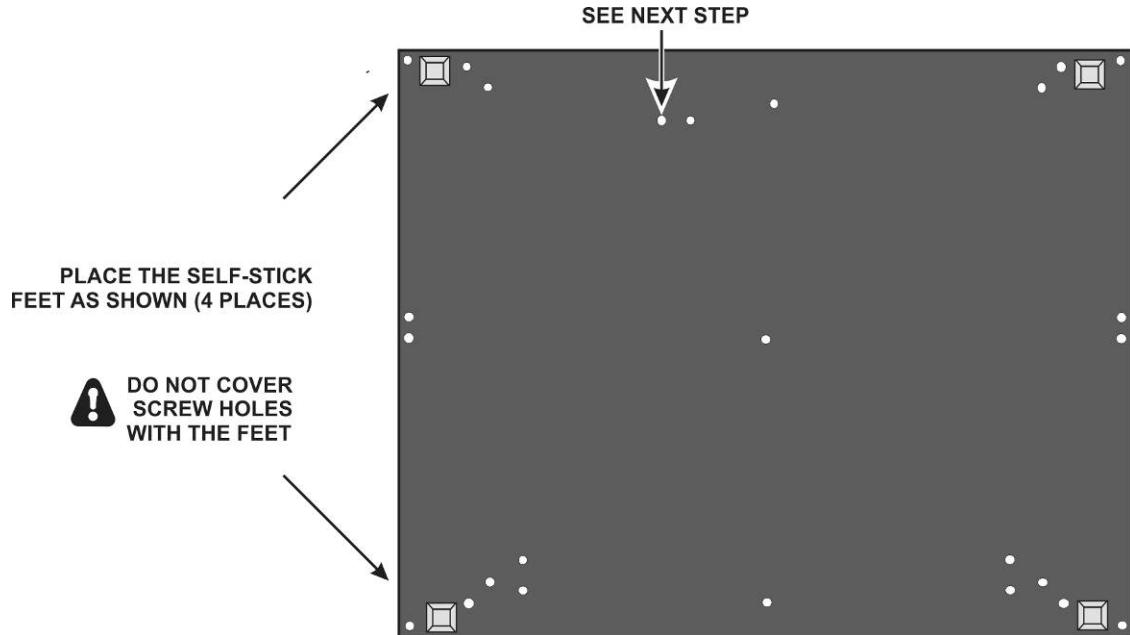
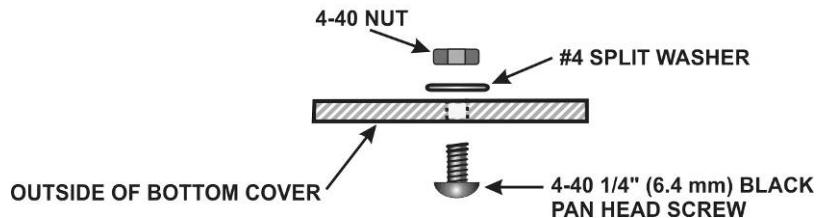

Figure 16. Placing Feet on the Bottom Cover.
Figure 17. Installing Hardware on Bottom Cover.
- Turn the bottom cover over and place the four self-stick feet on the cover in the locations shown in Figure 16. Do not cover any of the holes in the bottom cover with the feet. The screw hole indicated will be used in the next step.
- Install a screw, lock washer and nut in the hole indicated in Figure 16 as shown in Figure 17 with the screw head on the outside of the bottom cover. This hole is unused. The hardware is provided to fill it.